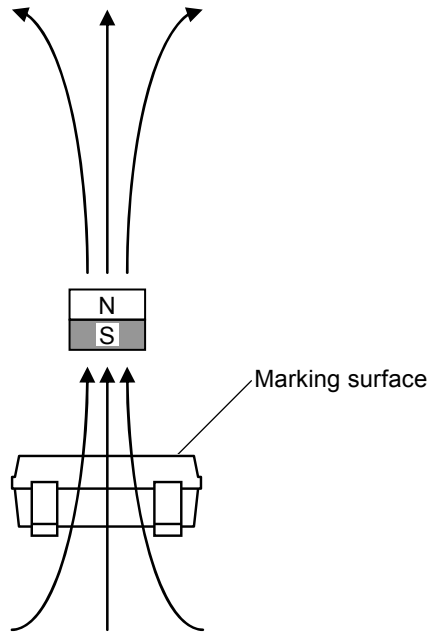

Figure 10
**Figure 10** shows the direction in which magnetic flux is being applied.